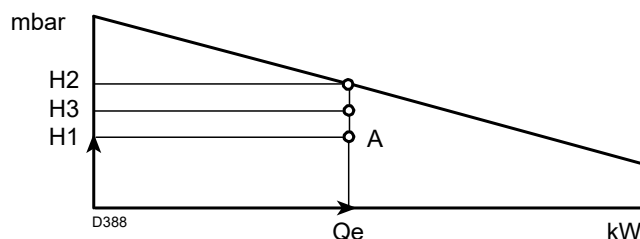

Fig. 6
- 4 Draw a vertical line from point A)(Fig. 6), and calculate the maximum pressure H2 of the firing rate.
If H3 is higher than H1)(Fig. 6), the burner can output the requested flow rate.